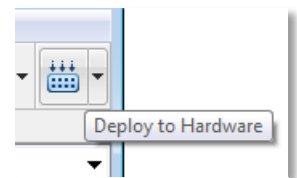

Figure 1: Simulink button example
- Buttons on the brick and in Simulink are displayed as such or bracketed, e.g., **[OK]** for the OK button or **[Deploy to Hardware]** (Figure 1).